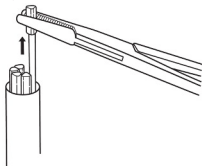

**Fig. 7**
7. Immediately immerse the closed distal tip and cap of the device in liquid nitrogen until equilibrium is reached (when boiling ceases) (**Fig. 7**).